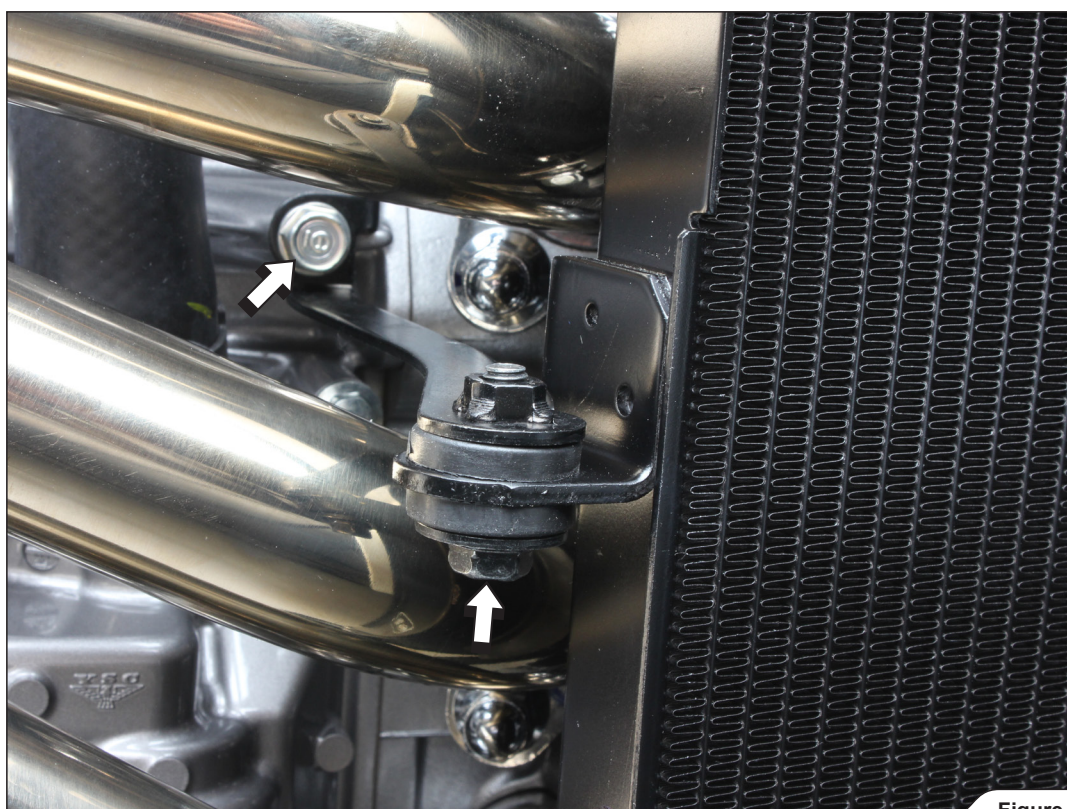

Figure 6
3. Unscrew the marked bolts and carefully remove the radiator's bracket off the motorcycle (Figure 6).